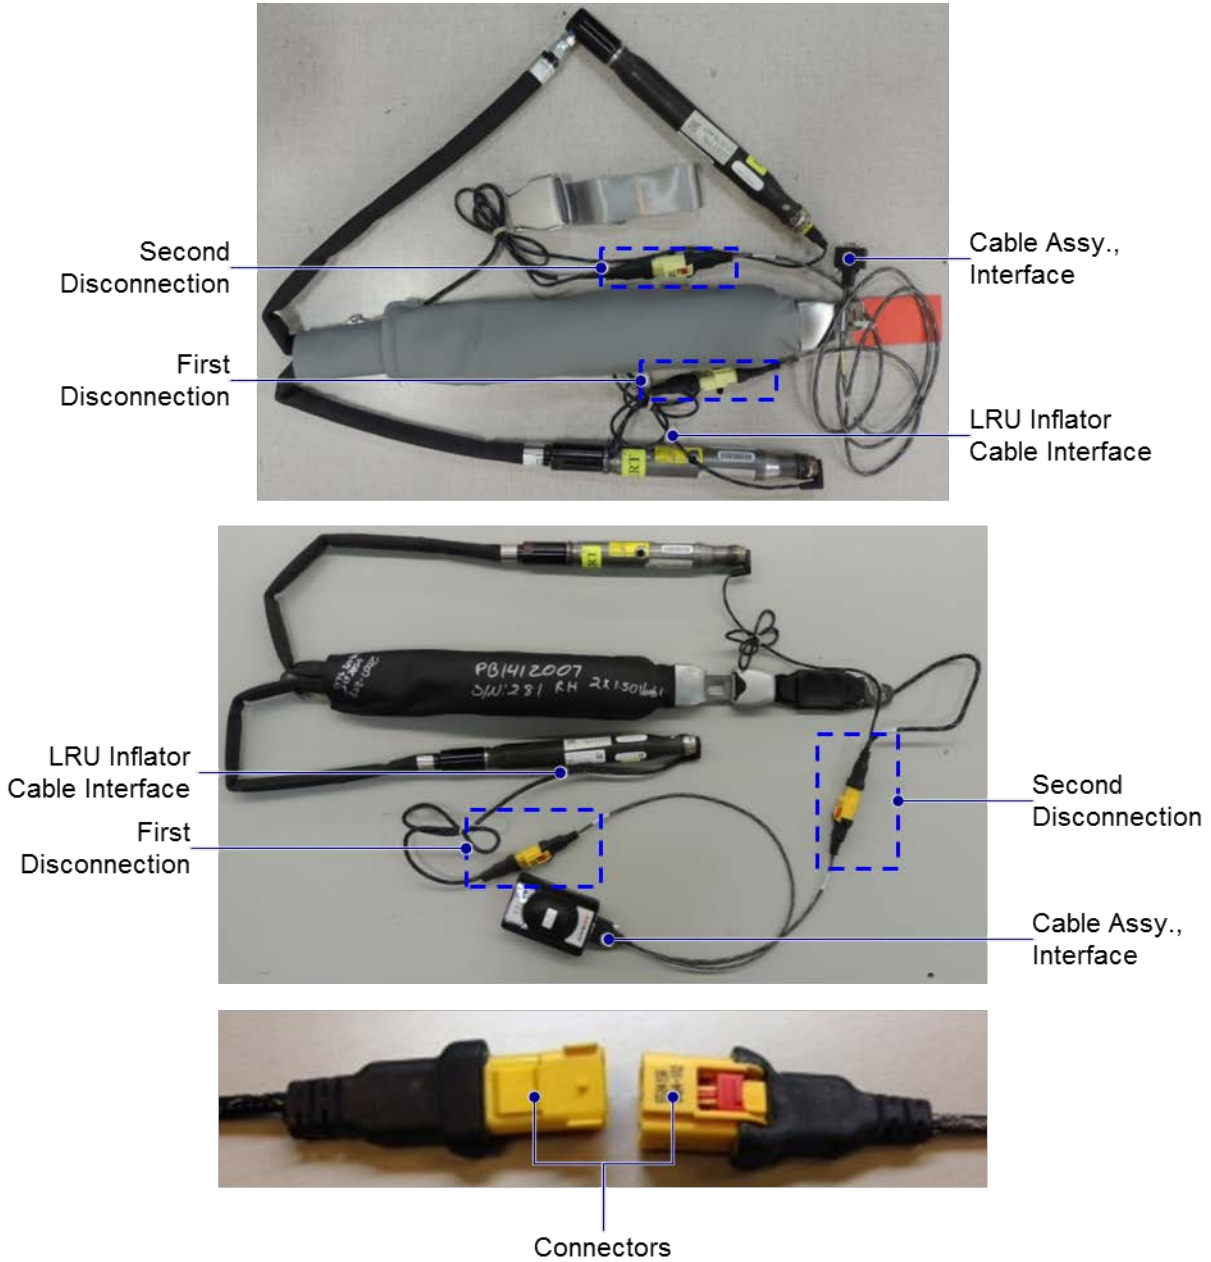

Figure 15 – System with Two Inflator Assemblies
- a. First Disconnection (Figure 15): Disconnect the cable assembly, interface from the LRU inflator cable interface. Refer to the seat or monument OEM documents and drawings for proper identification.